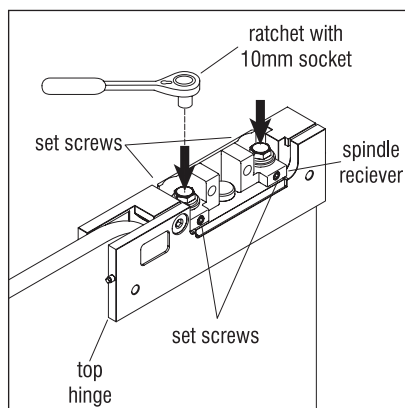

Figure 14
5. Using a 2.5mm Allen wrench, un-screw the set screws halfway out. Once those are loose, use a ratchet with a 10mm socket and loosen the hex bolts as illustrated. The spindle receiver should have no vertical movement, but be allowed to have horizontal movement (Figure 14).
6. Next, tighten the set screws back up, which will center the spindle receiver to the pivot bolt plate (Figure 14).
9. Align door center at strike jamb and by adjusting the set screws (Figure 14) in or out. Once, aligned, tighten set screws completely to maintain position. Next, tighten the hex bolts with a 10mm open end wrench (Figure 14).